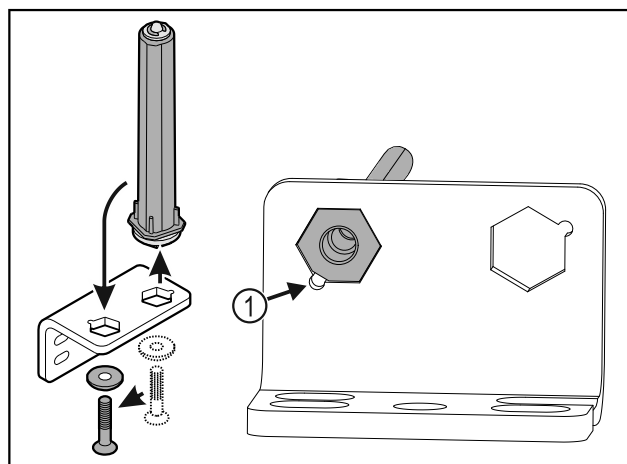

Fig. 28
- Make sure the pin chamfer Fig. 28 (1) faces the round hole when you put it in.